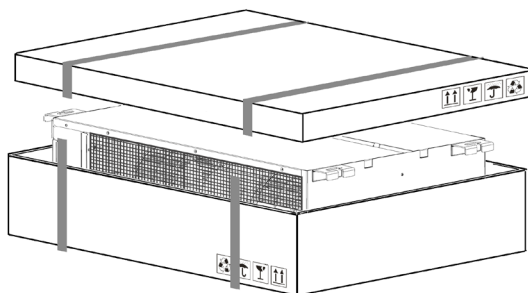

fig. 3
- 4.Ensure the installation space shown in Fig.3 is left for the access to maintenance.